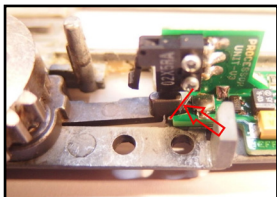

Fig. 5 - If is the cut off lever too low, grind it in red marked place
7. Turn the piston gear to the position where is cut off lever arm in the highest position. Microswitch arm have to be fully released. If not, grind cut off lever in the red marked place on fig. 5. Or try another cut off lever brand.